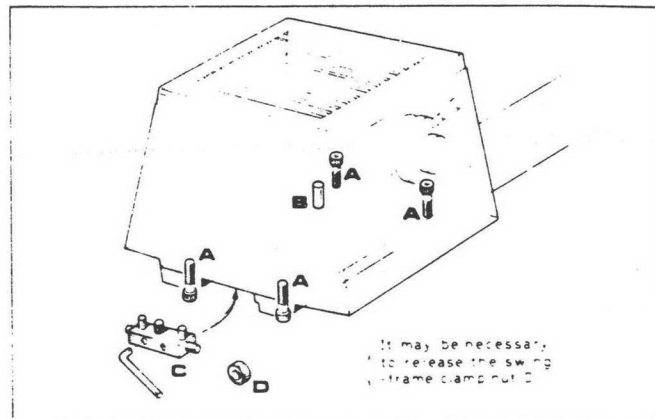

Fig. 18
To correct a difference in readings, slacken the four headstock screws (A) shown in Fig. 18 then adjust the set-over pad (C) to pivot the headstock about the dowel (B). Tighten all securing screws after each adjustment and repeat the test cut and alignment check until the micrometer readings are identical.